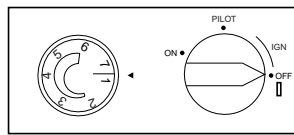

Figure 19 - Dual Control for Thermostat Models FAS-3B and FAS-5B
- Push in control knob slightly and turn clockwise to the OFF position. Be sure that the temperature setting knob is set at the line between level 1 and level 7 (see Figure 19).
- Push in and turn control knob counterclockwise to PILOT position. Press in control knob for five(5) seconds.
- Press in control knob and turn counterclockwise past IGN to PILOT (see Figure 19). This will cause the piezo ignitor to spark and light the pilot gas. Keep control knob depressed for 10 seconds before releasing. If needed, repeat steps 5 through 7 until pilot lights.